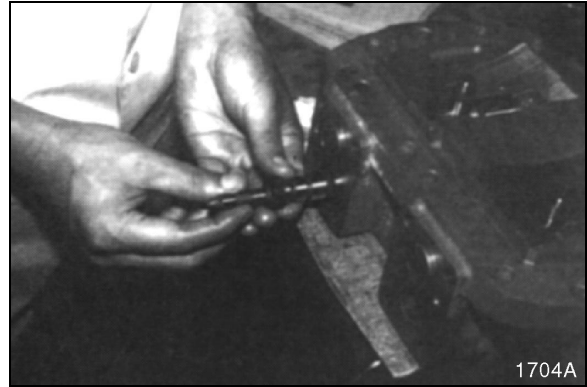

Figure 110
6. Install spool to barrel and attach barrel to main control body. See Figure 110.